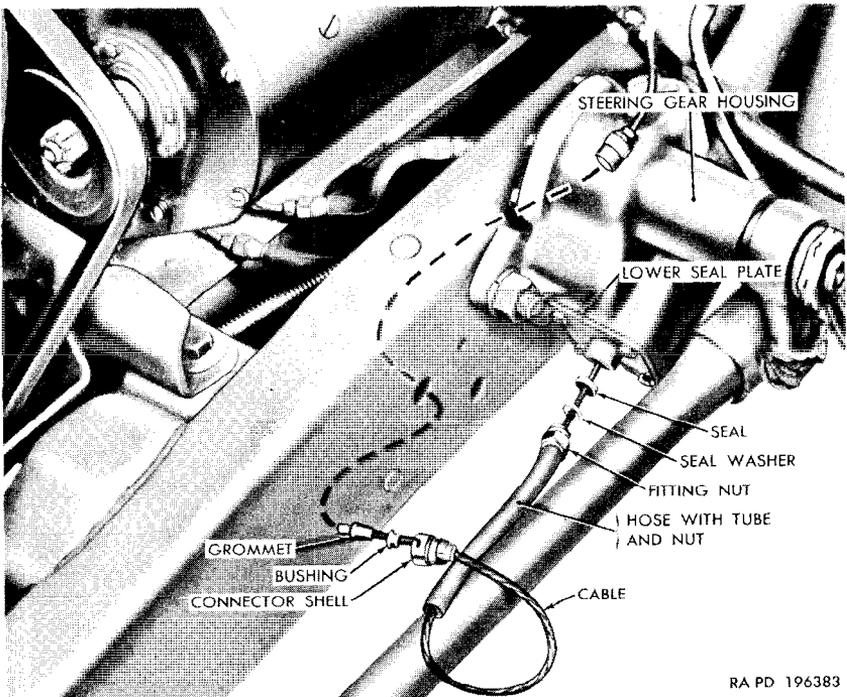

Figure 150. Horn button cable disconnect points.
- (1) Install the lower retaining plate (L) over the steering gear shaft and install the steering wheel nut (P). Tighten the nut.
- (2) Insert the lower end of the horn button cable (A) in the upper end of the steering gear shaft, and push the cable down through the shaft until the lower end extends through the shaft. Install the insulator (N) on the cable just below the cable terminal.
- (3) Install the button spring (T) and the upper retaining plate (S) in the horn button (U), and install the snap ring (R).
- (4) Install the plate spring (Q) in the steering wheel and install the horn button (U), pressing the button down firmly and turning it clockwise to engage the two retaining plates (L and S). Install the button seal (V).
- (5) Install the cable seal and seal washer over the lower end of the cable and into the lower seal plate (fig. 150). Assemble the hose, tube, and $\frac{3}{8}$ -inch inverted flared tube fitting nut (fig. 150), and install the parts on the cable. Screw the nut to the lower seal plate on the steering gear housing.
- (6) Install the connector shell, bushing, and grommet on the lower end of the cable (fig. 150). Position the grommet next to the cable terminal with the bushing holding the grommet in place.
- (7) Insert the cable through the opening in the frame left-side rail, connect the cable to cable 25A, and engage the connector in the clip on the splash shield.